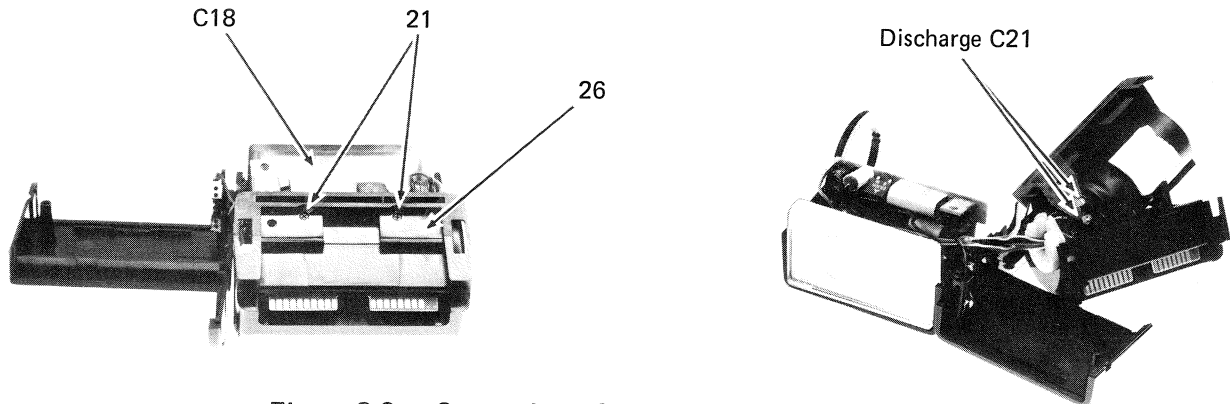

Figure 2-9. Separation of Body Cases NC and ND
- D. Remove two screws (21) at the bottom of body case NC (26). Separate body case NC from body case ND (27). (Figure 2-9)